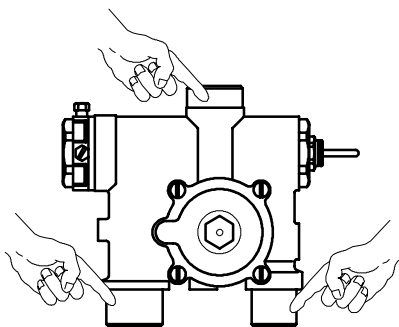

fig. 31
- 3 Completely loosen the connections to the hydraulic circuits indicated in fig. 31.